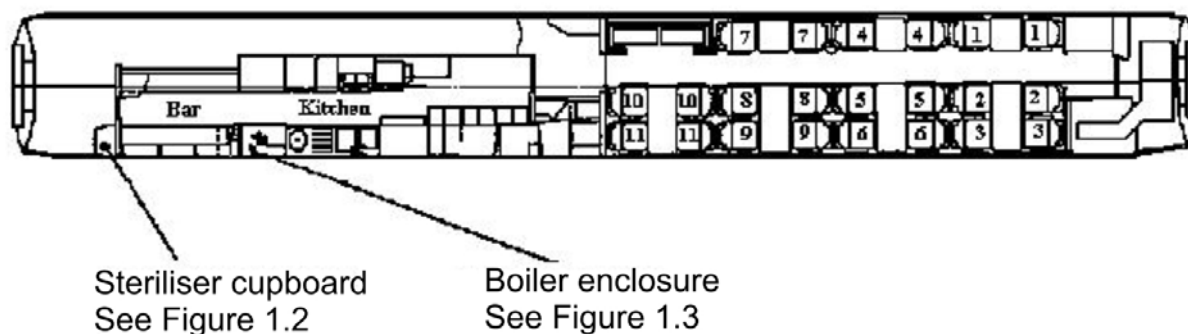

Figure 1.1: Location Of Drain Cocks On RFM
1. Open the access panel to the water steriliser (see Figure 1.1).